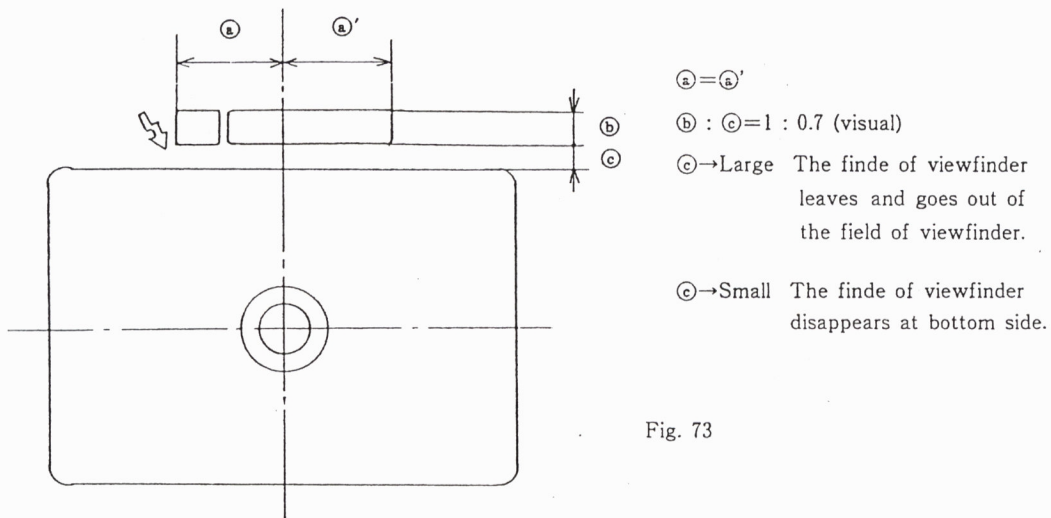

Fig. 73
- 1) While looking through the viewfinder, the Finder Display in view as show in Fig. 73 and adjust the adjuster position by turning with a minus screwdriver.